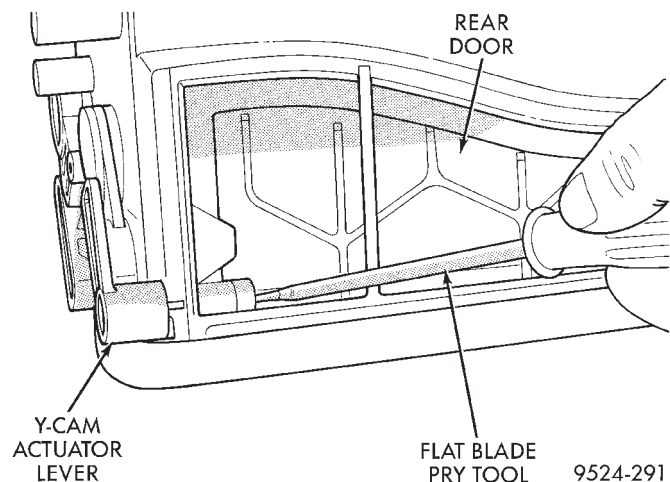

**Fig. 79 Rear Y-Cam Release**
- (4) From inside of air inlet, depress release tang on rear inlet door (Fig. 79).